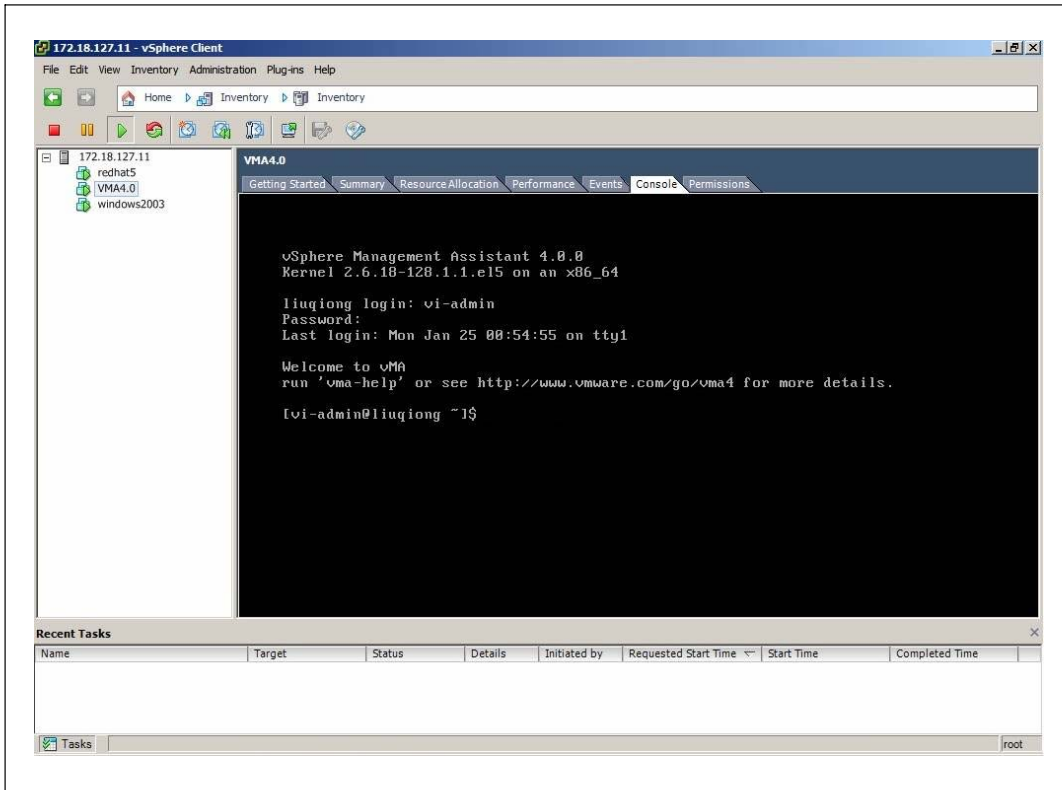

Figure 110. Console Window – Log In
- 3 Log in to the guest operating system from the virtual machine console (see Figure 110).